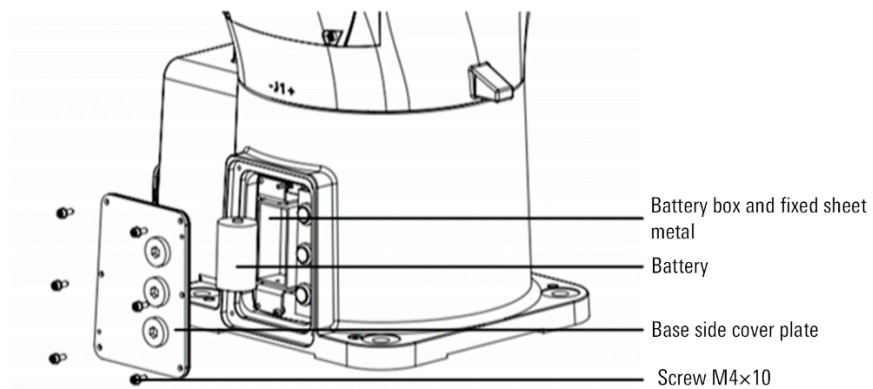

Figure 12-4 Diagram of replacing battery
- Step4. Remove the fixing sheet metal of the battery box from the right cover plate to see the battery, as shown in Figure 12-4.